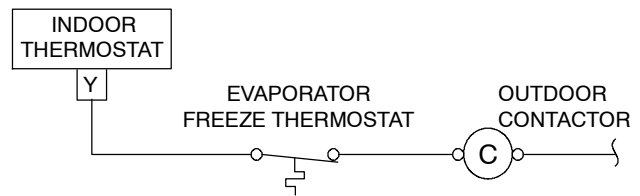

Fig. 11- Evaporator Freeze Thermostat Wiring
**NOTE:** It is REQUIRED that evaporator freeze thermostat Part No. KAAFT0101AAA be attached to vapor tube near evaporator coil to prevent coil freezing. Wire thermostat in series with 24-v contactor coil. (See Fig. 11.)